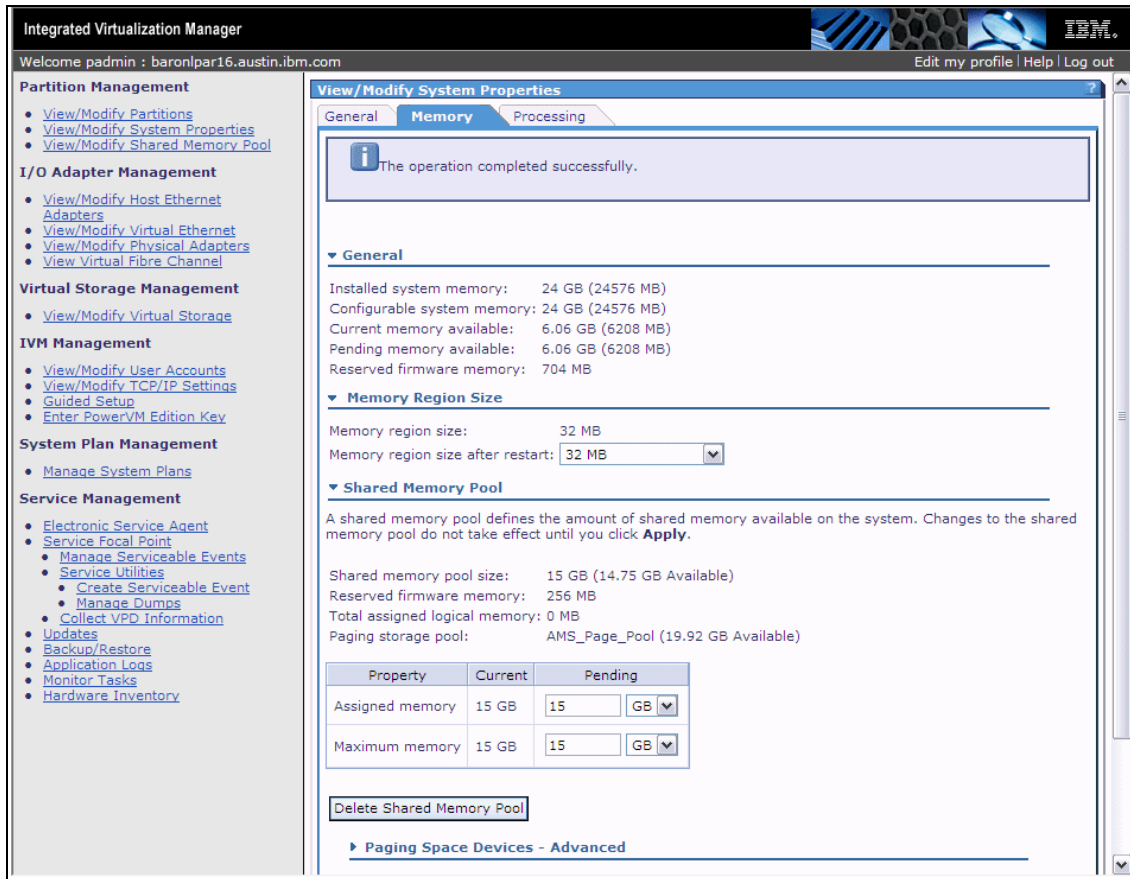

Figure 5-8 Shared memory pool information after creation
- Click the **Apply** button to create the shared memory pool and the assignment of the paging storage pool as shown in Figure 5-8 on page 191.